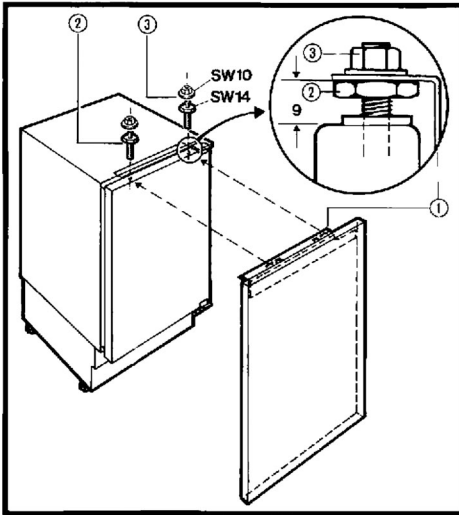

Fig. C1
- Screw the four adjusting pins ② fully into the appliance door.
- Position the decor panel on the appliance door, introduce the locating pins at top into the slots in the mounting plate and open out according to detail fig. C1 (about 9 mm).